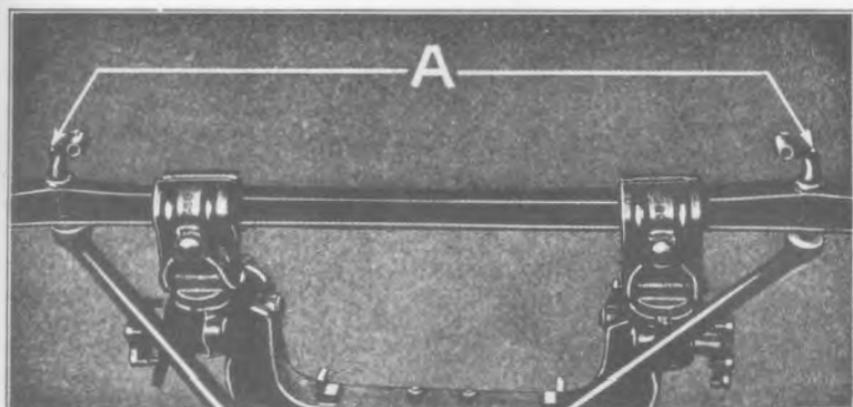

Fig. 369
- 684** Examine spring hangers and bars for wear. If parts show effects of wear, new parts should be installed. Examine radius rod for being sprung, cracked or badly worn on ball end. If slightly sprung the rod can be straightened. If cracked or the ball is badly worn, a new rod should be installed. If radius rod is O. K. insert spring perches through axle. Perches are made in rights and lefts; in addition to the "T" numbers which are stamped on them, (the right perch is stamped T-274-B; the left perch T-275-B), the perches can also be distinguished by the raised point or boss on the perch. The perches are assembled to the axle with the raised point on the inside edge of the perch (See "A" Fig. 369). Position radius rod over ends of perches, running down the perch nuts with the fingers, but not tightening the nuts until spring and hangers have been assembled.